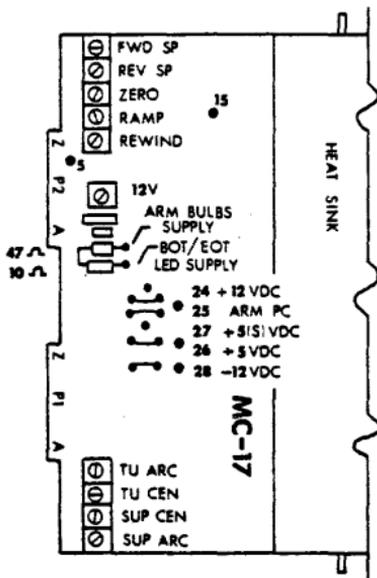

FIGURE 4
- Check/Adjust +12V, $\pm 1V$ (after 10 min. warm-up)(Refer to Fig.4)
- With the supply motor turning and the arm held center, adjust the SUP CEN potentiometer to make the supply reel motor stop turning. See Figure 4 for the location of all pots and test points.
- Load a scratch tape and press LOAD. The tape should advance to BOT and halt. If the arms move out of range and shut down the machine, adjust the TU ARC and/or SUP ARC pots counter-clockwise to keep the arms within the operating area (see Figure 4).